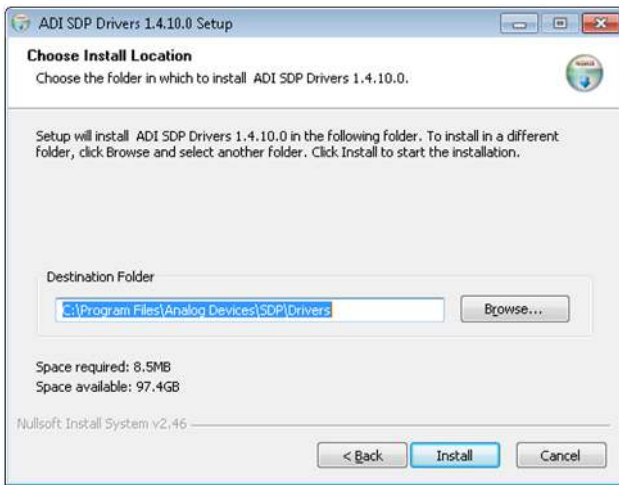

Figure 3. SDP Drivers Setup Install
4. Within the SDP drivers setup wizard, choose install location, and then click **Install** (see Figure 3).